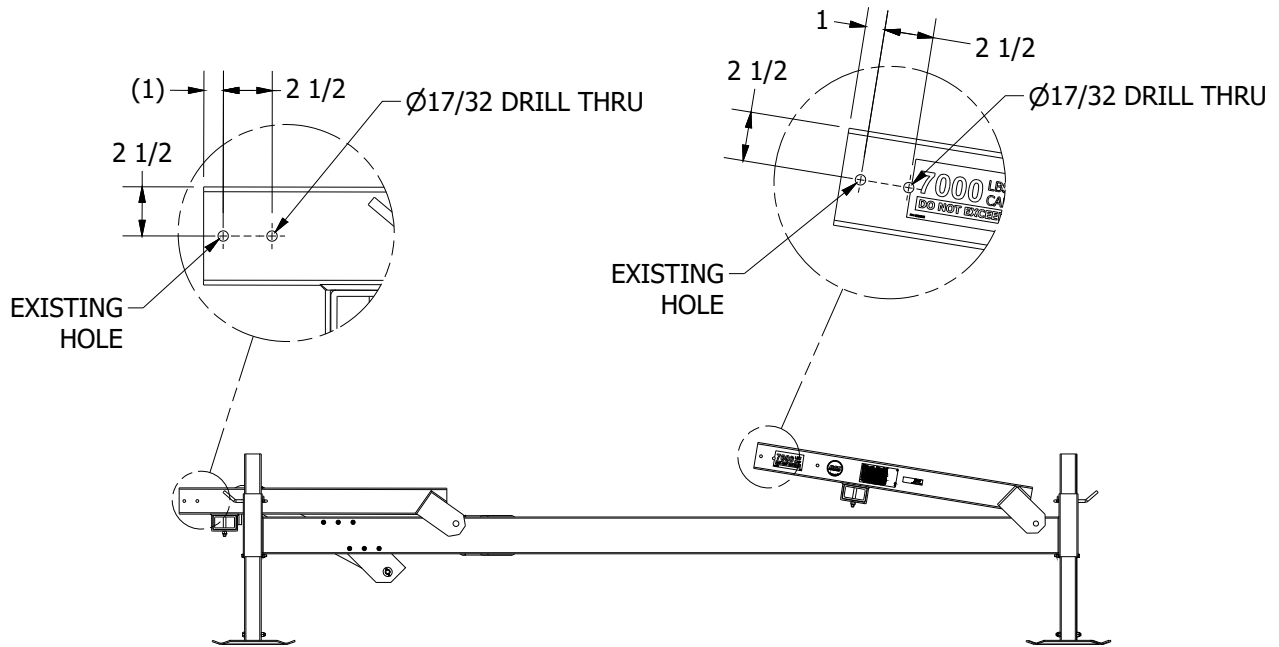

Figure 2-1A.
1. Refer to **Figures 2-1A**. Remove the liftarm extension tubes. These tubes will not be used.
2. Layout the holes shown in **figures 2-1A**. To aid in new hole location, align pivot plate (5) with existing liftarm hole.